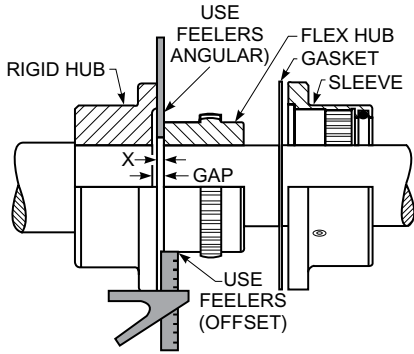

Figure 12
4.2.1 Refer to Figure 12
4.2.2 Refer to Figure 12